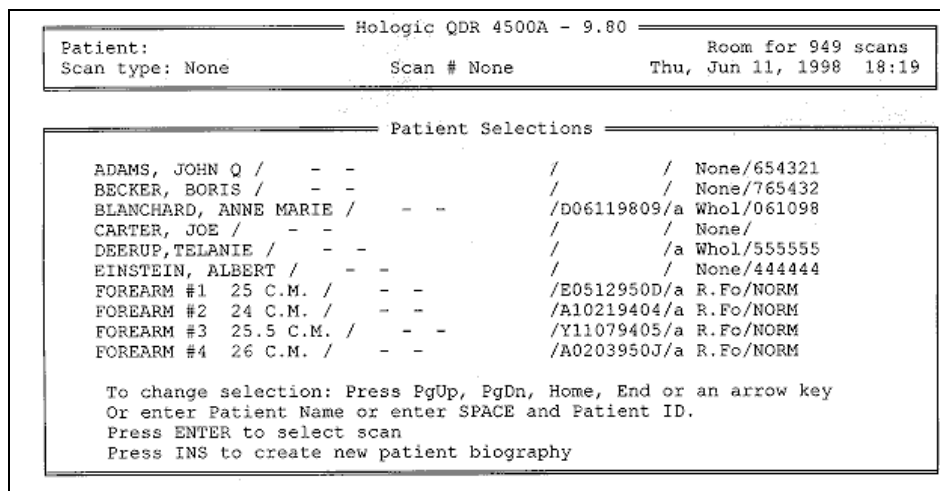

Figure 3-5. Patient selections menu
- At the 'Patient Selections' menu, press 'Insert' to create a new SP biography. See Figure 3-5.
- The 'Patient Selections' menu appears (see Figure 3-5).